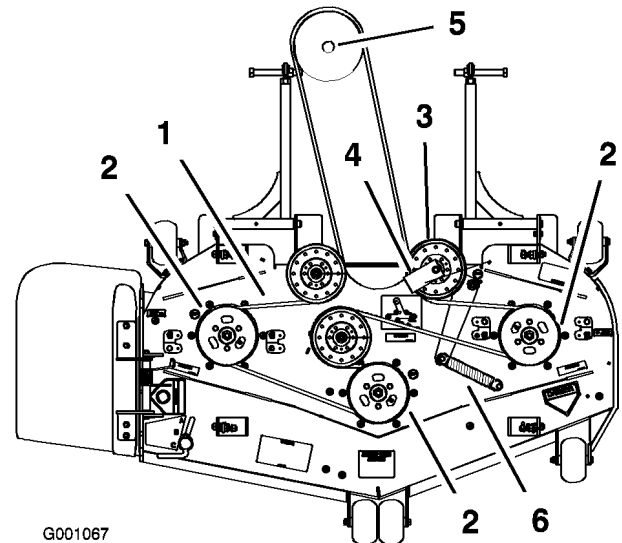

Figure 57
6. Install the new belt around the mower pulleys and the gearbox pulley under the engine (Figure 57).
7. Install spring to the idler arm (Figure 57).
8. Install the belt guide on the spring loaded idler at a 45 degree angle as shown in Figure 57.